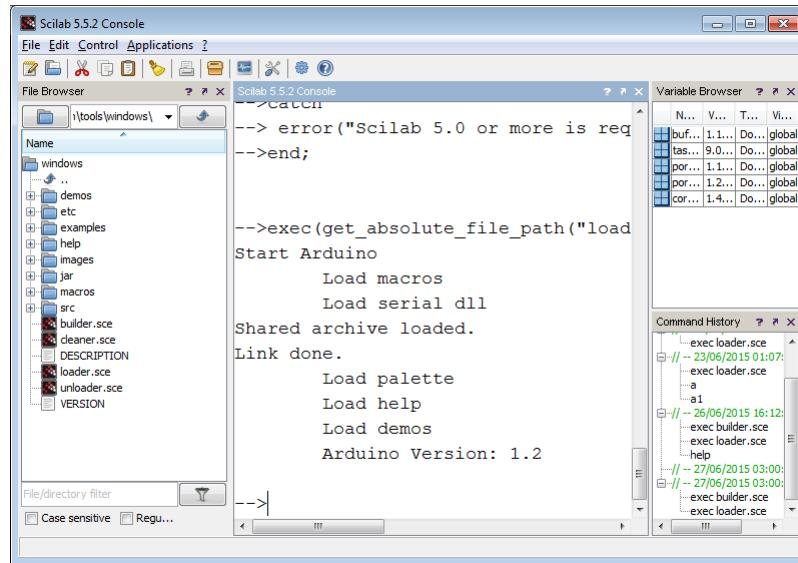

Figure 3.9: Output of loader.sce
6. Next, type the command, `exec loader.sce` - this will load the toolbox. This means all the new functions corresponding to the toolbox are all loaded in the workspace. It will also make available new Xcos blocks, if any. The output of this command is as shown in Fig. 3.9. If you clear the work space for any reason, you will have to execute this command once again³